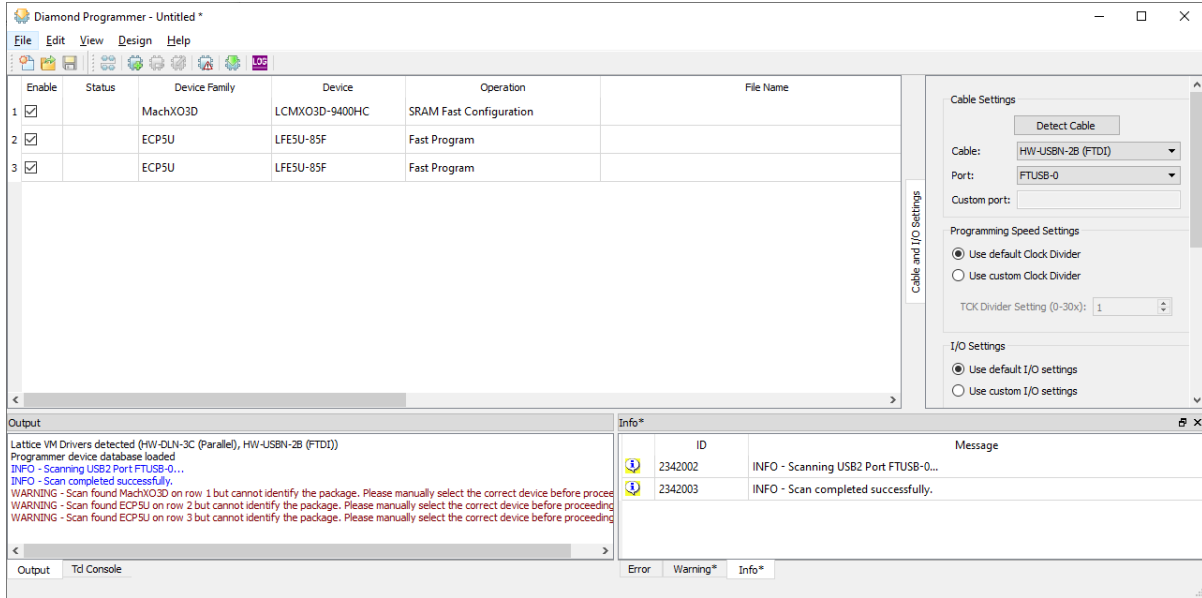

Figure 4.2. Device Selection
4. Open Lattice Diamond Programmer (version 3.11 or later) and create a new project from JTAG scan. If the device column is highlighted in yellow, manually select the device as shown in Figure 4.2.